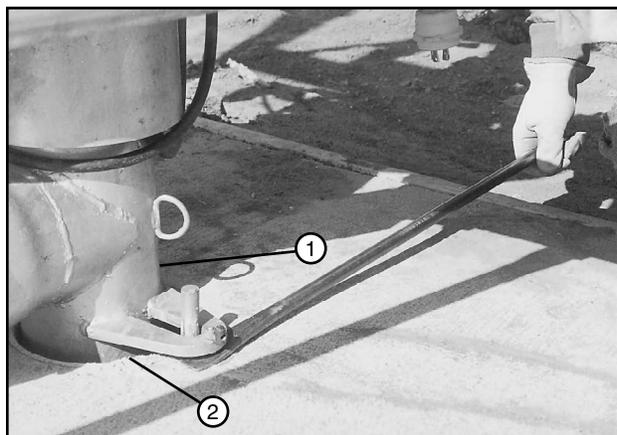

Figure 50-2 1. Riser Pipe
13. Use the winch to raise the riser pipe out of the anchor pipe. It may be necessary to pry the riser from the anchor pipe. See Figure 50-2.